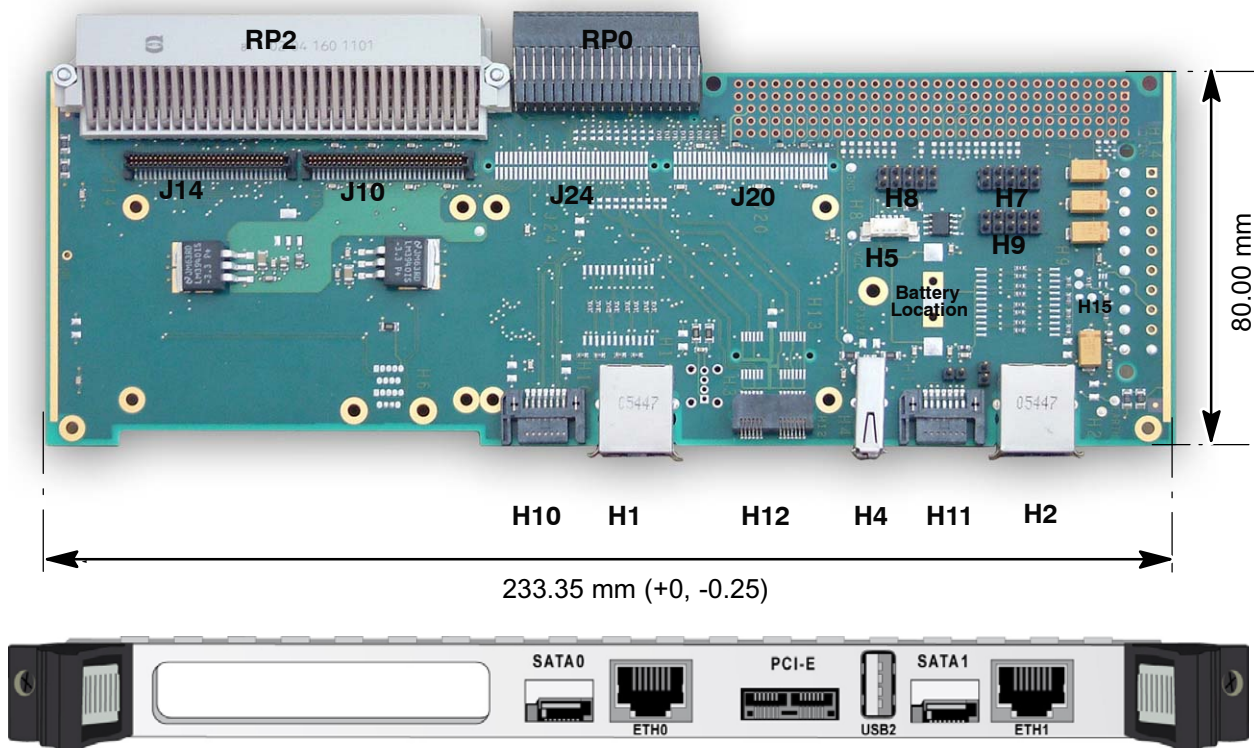

Figure 40: PBV36-P0-VM6-00 Module Overview
- Two 10/100/1000BASE-T Ethernet interface, **H1** and **H2** connectors on Figure 40
- One USB connector, **H4** on Figure 40
- One SMB connector, **H5** on Figure 40
- Two Serial lines ports available on two HE10 connectors (**H7**, **H8** on Figure 40)
- Three GPIOs signals available through an HE10 connector, **H9** connector on Figure 40
- Two Serial ATA connectors, **H10** and **H11** connector on Figure 40
- One PCI Express connector, **H12** connector on Figure 40